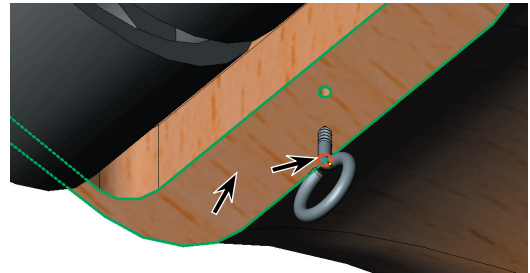

Fig. 53
Step 10. Click Add/Finish Mate  in Mate pop-up toolbar to add a **Concentric** mate, Fig. 53.
Step 11. If necessary, click **Mate**  on the Assembly toolbar. Click **bottom face of the body** and **round edge of the eye screw**, Fig. 53.